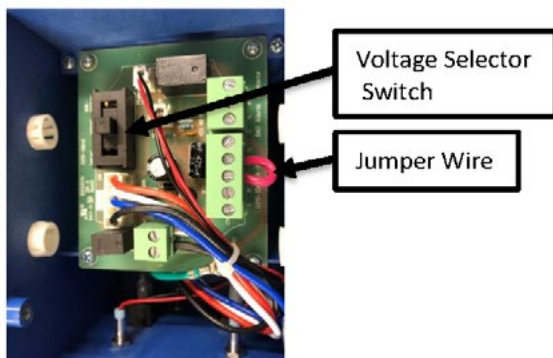

FIGURE 15
WARNING – DO NOT CONNECT POWER UNTIL VOLTAGE SELECTOR SWITCH INSIDE HOUSING IS CONFIRMED TO BE IN THE CORRECT POSITION FOR THE PRIMARY POWER BEING APPLIED (See FIGURE 15).
The GPS-iMOD system requires a total of 15 watts to power up to 6 GPS-iMODs at any length. The power supply will accept 24VAC, 115VAC or 208-240VAC at 50HZ or 60HZ. CAUTION!! The power supply has an internal voltage selector switch set to 115VAC from the factory, as shown in FIGURE 15. If 24VAC or 208-240VAC is required, move the selector switch to the proper position as shown on the circuit board or inside cover of the power supply lid. DO NOT APPLY POWER until the switch position matches the power supplied. Based on voltage input or local codes, the 3-prong plug may be cut off and the three wires are as follow: White = Neutral, Black = 24V, 110V or 208-240V (based on switch position) and Green = Ground.
1. Remove the red jumper wire between C and NO on the GPS-iDetect-P terminal block (see FIGURE 15 for jumper wire).